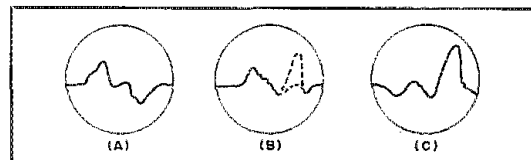

Fig. 10 — Representative off-channel responses. See text for discussion of the meaning of the patterns.
If, on the other hand (Fig. 10), the incoming signal is quite out of the receiver linear region (10 kHz or so off frequency), the off-null antenna aim may present a fairly symmetrical af output to one side (A). It may also show a near null with instability (indicated by the broken line on the display) at a sharp null position (B) and, aimed to the other side, give a greatly increased af output (C). This is caused by the different parts of the receiver fm detector curve used. The sudden tone change is the tip-off that the antenna null position is being passed.